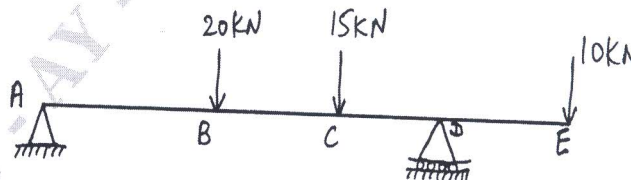

Fig Q6
- 6 Draw shearforce and bending moment diagrams for the beam shown in Fig Q6. Making values at salient point. Locate the point of contraflexure and point of maximum bending moment. Determine the value of maximum bending moment.